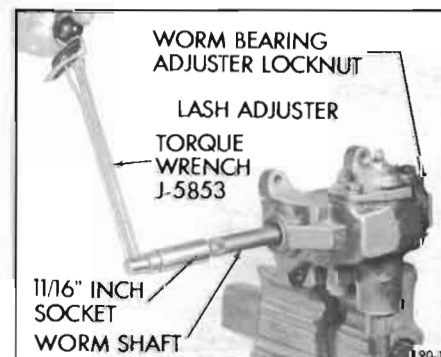

Figure 90-1—Checking Adjustments on Bench
1. Attach Torque Wrench J-5853 to worm shaft and turn shaft to extreme right or left position. See Figure 90-1.
7. **Adjust Worm Bearing Preload.** Loosen worm bearing adjuster lock nut using a drift. See Figure 90-1. Turn bearing adjuster as required to bring pull between 2 and 7 inch pounds. Tighten lock nut, then recheck preload.